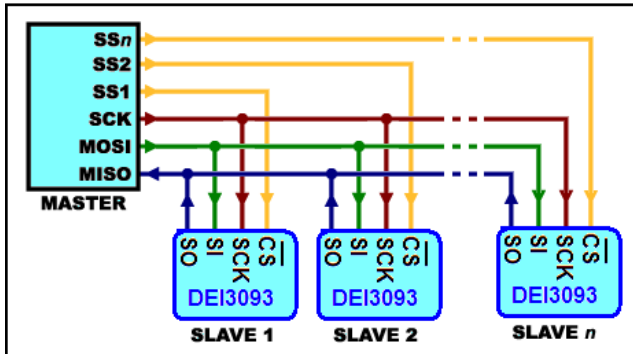

Figure 2 SPI multi-slave example
The DEI3093 Serial Peripheral Interface (SPI) provides host access to internal registers and data FIFOs. A system with single MASTER HOST connected to multiple DEI3093 as slaves can be implemented with multiple Chip Select (\overline{CS}) lines. The other lines can be shared among master and slaves. The shared lines are Serial Clock (SCK), Serial Data Input (SI) and Serial Data Output (SO). A daisy chain loop SPI slave system will not work for DEI3093. Figure 2 is showing the interconnects to \overline{CS} needed for multi-slave use.